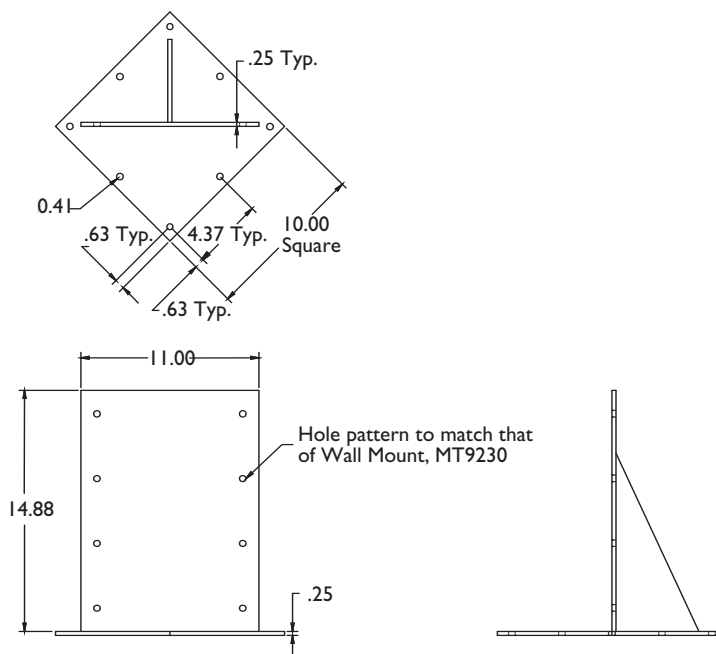

Figure 4: Dimensions MT9230R Roof Mount
2. Using the Roof Mount as a template, position it in the desired location and mark the hole locations on the roof surface (see **Figure 4**). Use a minimum of six fasteners (one at each corner and two more).
Dimensions: See Figure 4.